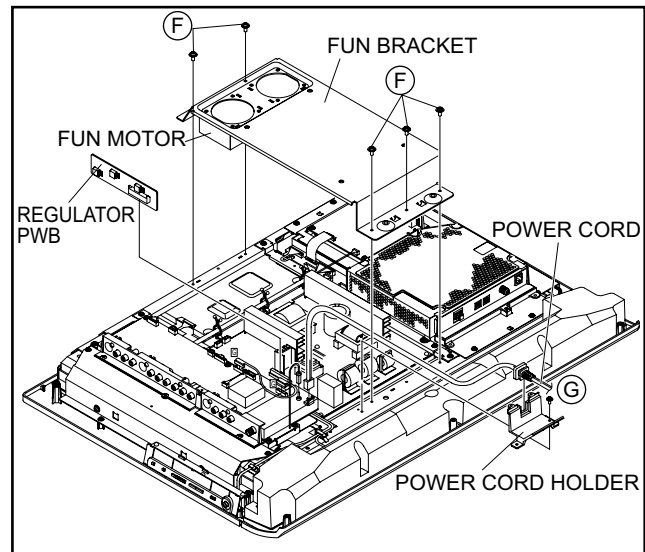

Fig.3-1-3
3.1.3 REMOVING THE FUN BRACKET, REGULATOR PWB AND POWER CORD (Fig.3-1-3)